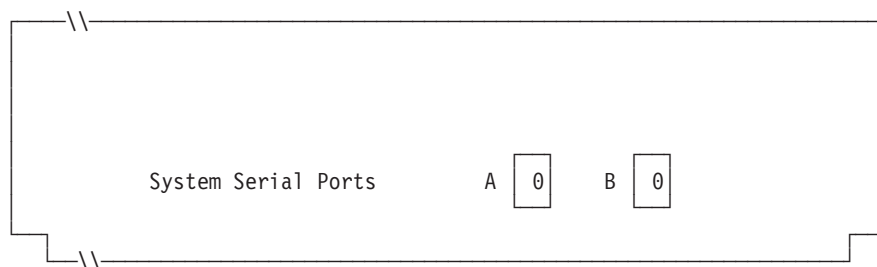

Figure 95. Right Side of Rear of 4693-2x2 Point-of-Sale Terminal
4. If terminal applications use the asynchronous port, write the port number on Figure 95. Use a 0 if the terminal does not use a port. Valid port numbers are 1, 2, 3, 4.